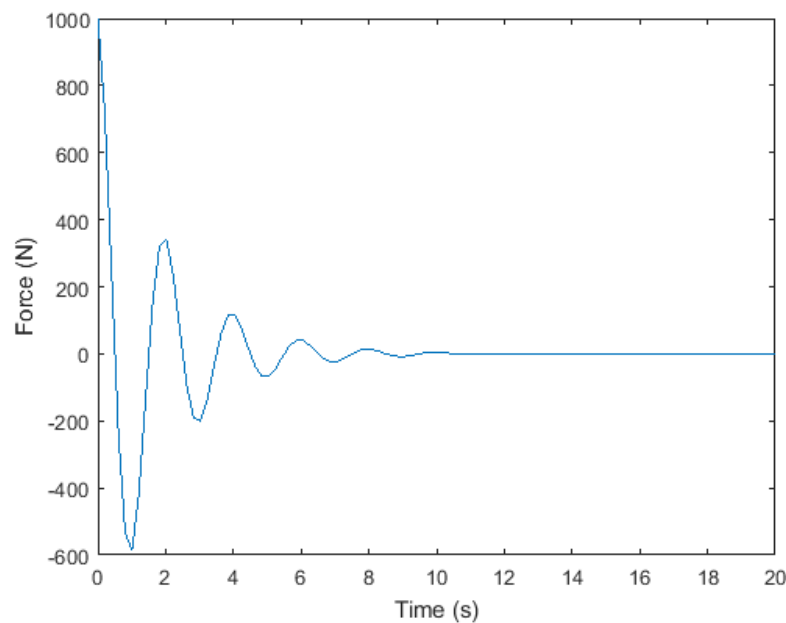

Figure 2: Damping effect with spring constants $k_1 = 1000$ N/s and $k_2 = 0.6$
4. The spring shock system in automobiles is an example of a real mechanical system which involves the deflection of nonlinear springs that would demonstrate a damping effect over time (see behavior response in Figure 2 below). The resistance force of the spring F (N), with respect to time t (s), is given by the following equation